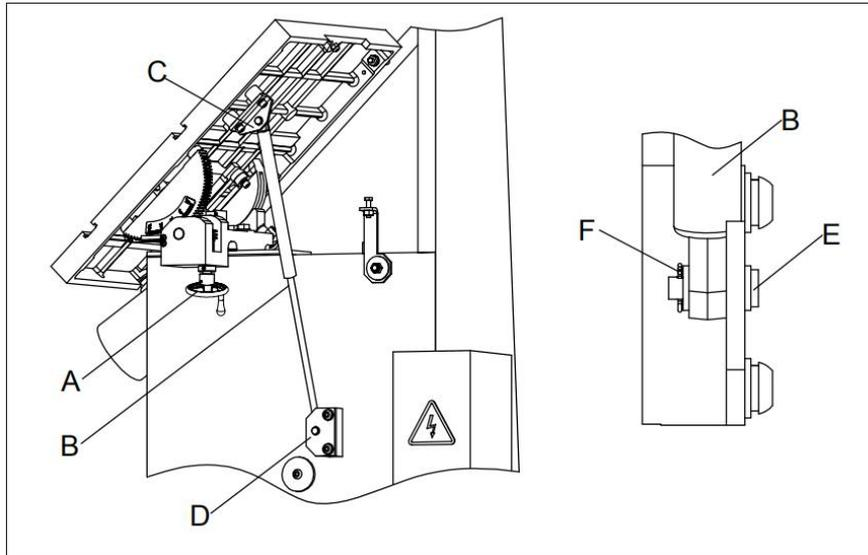

Fig. 5
5.3 Spring Assembly (Figure 5.)